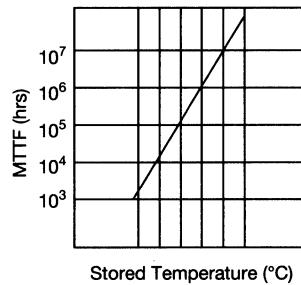

Figure 2-6 EPROM Data Retention Characteristics
**Data Dissipation by Heat:** The electrons at the floating gate are in a non-equilibrium state, so the dissipation of electrons by thermal energy is unavoidable. Therefore, the data retention time depends on temperature. Figure 2-6 shows typical data retention characteristics. The data retention time is proportional to the reciprocal of absolute temperature.